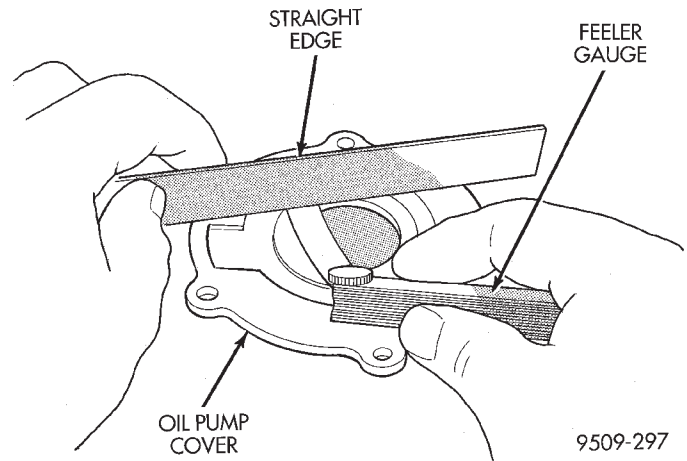

Fig. 93 Checking Oil Pump Cover Flatness
(2) Lay a straightedge across the pump cover surface (Fig. 93). If a .076 mm (.003 inch) feeler gauge can be inserted between cover and straight edge, cover should be replaced.